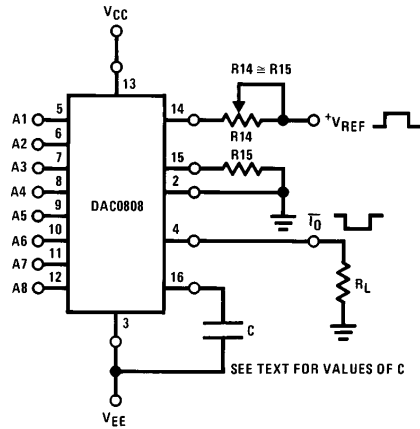

FIGURE 7. Positive  $V_{REF}$  (Note 7)
**Curve A:** Large Signal Bandwidth Method of Figure 7,  $V_{REF} = 2 \text{ Vp-p}$  offset 1 V above ground.
**Curve B:** Small Signal Bandwidth Method of Figure 7,  $R_L = 250\Omega$ ,  $V_{REF} = 50 \text{ mVp-p}$  offset 200 mV above ground.
The reference amplifier provides a voltage at pin 14 for converting the reference voltage to a current, and a turn-around circuit or current mirror for feeding the ladder. The reference amplifier input current,  $I_{14}$ , must always flow into pin 14, regardless of the set-up method or reference voltage polarity. Connections for a positive voltage are shown in Figure 7. The reference voltage source supplies the full current  $I_{14}$ . For bipolar reference signals, as in the multiplying mode,